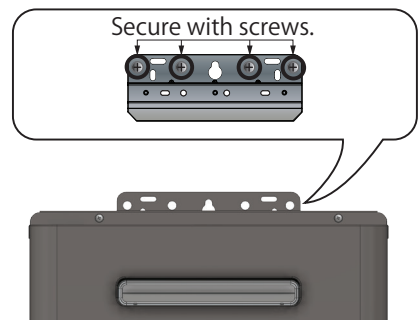

Figure 11 - Use Mounting Screws to Secure Water Heater to Wall Construction
**3** Secure the water heater firmly, fastening the appropriate screws for wall construction into the upper and bottom brackets of the water heater and wall. See Figure 11.